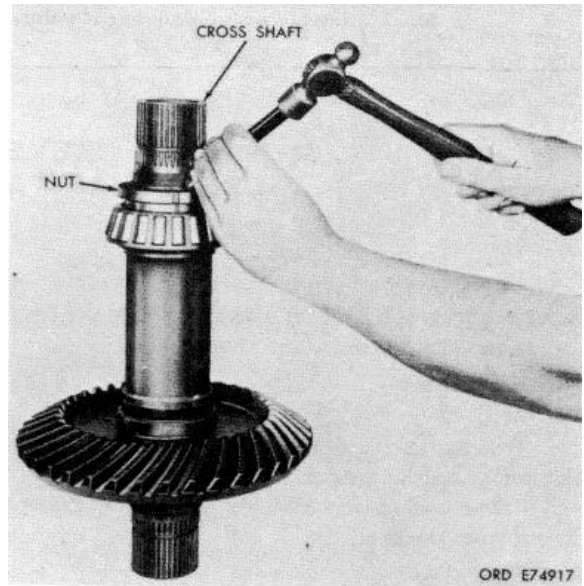

Figure 7-18. Staking nut into cross shaft.
e. Using a center punch, stake the nut into the slots in the cross shaft (fig. 7-18).